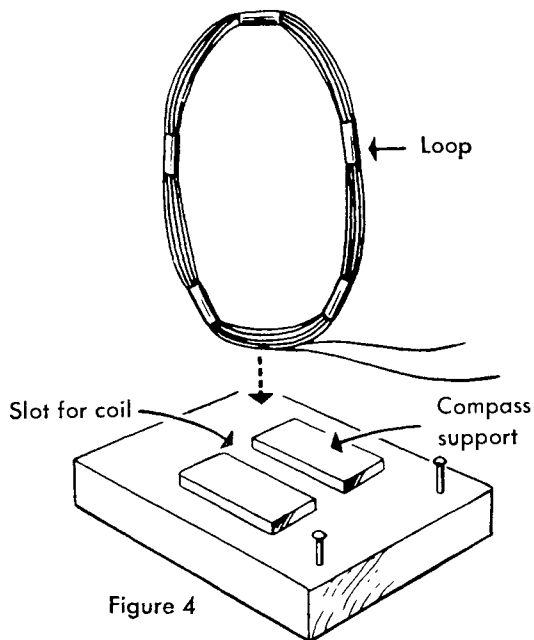

Figure 4
- Wooden blocks (See Figure 4)
Using a glass or anything three to four inches in diameter, wind about 20 turns of wire in a "bunched" coil as in Figure 4. Wrap the coil at several points with cellophane or plastic tape to keep it from unwinding.
Make a wood base for your coil as shown in Figure 4. The compass support blocks can be thin wood slats. Do not attach them with steel nails or tacks. Use glue instead. Hold the coil in the slot between the blocks with glue or melted wax or use copper staples. Place the compass on the supports and rotate the base so that the compass needle and coil are parallel, pointing north and south.